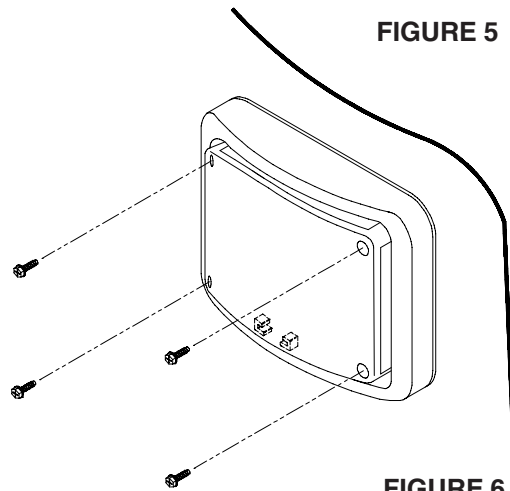

FIGURE 6
9) Attach the lens to the housing using the four #8 x 5/8" stainless steel, sheet metal screws provided (Figure 6). **IMPORTANT:** Similar to step 6, there are slots on the inside of the lens which must capture the OsciLaser base plate.